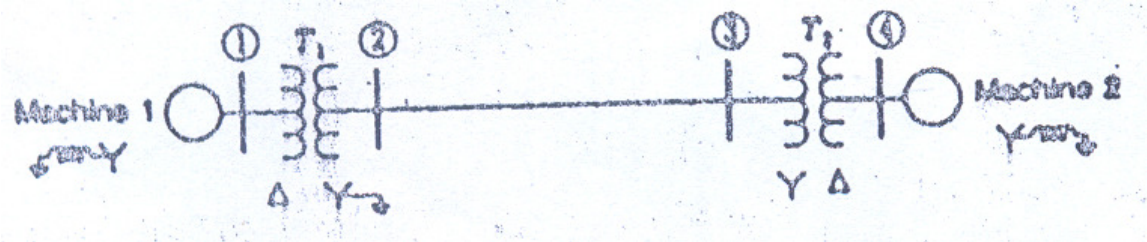

Fig.11
9. Two synchronous machines are connected through three phase transformers to the transmission line shown in Fig.11 the ratings and reactance of the machines and transformers are